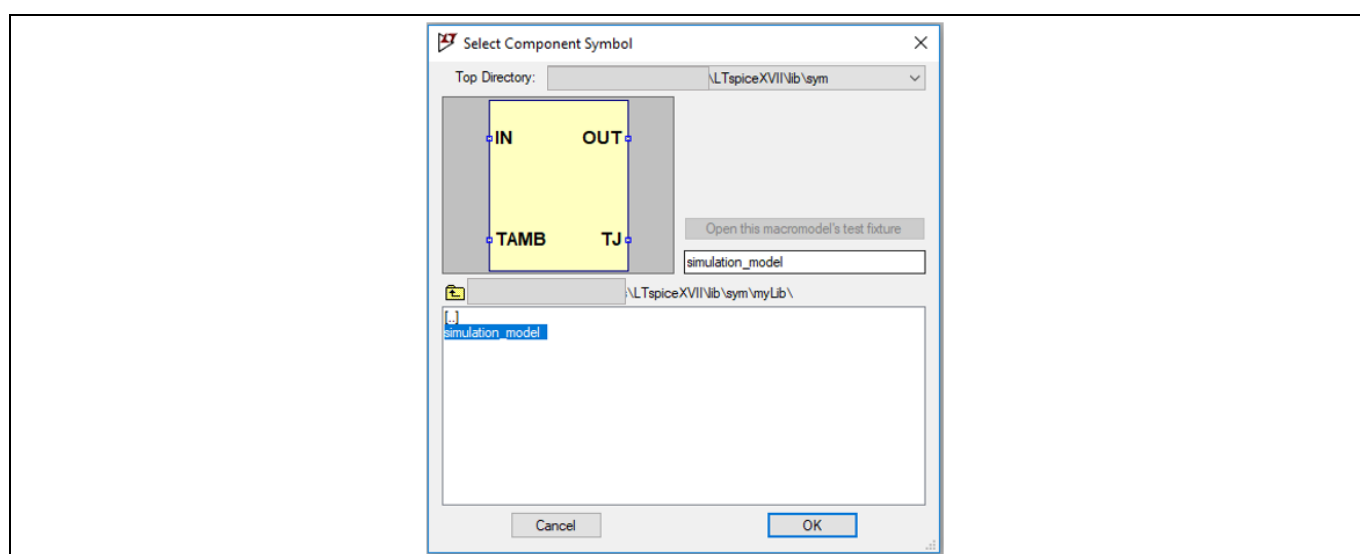

Figure 5 Place part from user library
- Double click to place the symbol on schematic page as shown in **Figure 5**